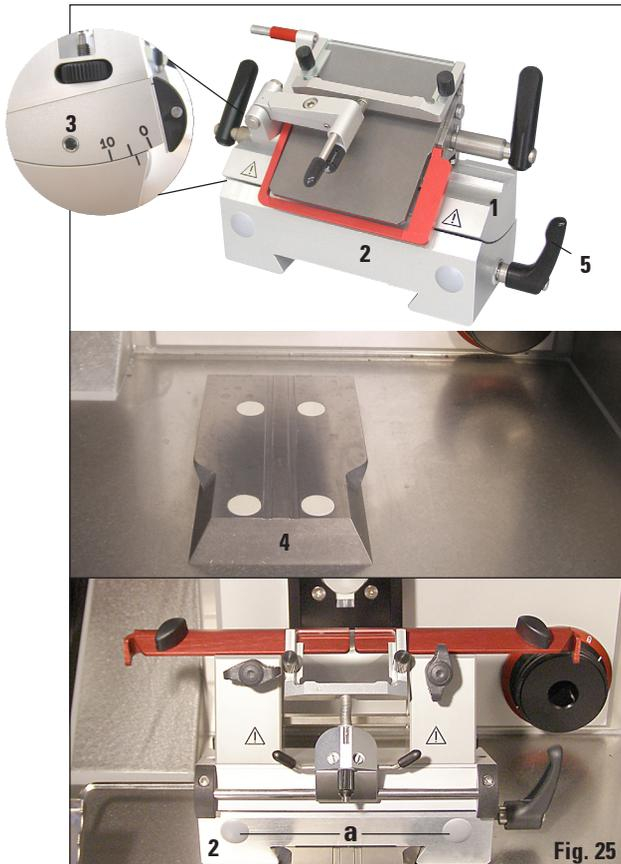

Fig. 25
- Set the knife or blade holder (1, Fig. 25) on the base (2), adjust the clearance angle (on the left of the knife/blade holder) to approx. 2°-5° and secure it in the bore (3) on the base (2) using the No. 4 Allen key.
- Push the knife holder base (2) on the dovetail guide (4) from the front and tighten it using the clamping lever (5). To move the base, open the clamping lever only a little to prevent accidental sliding in the direction of the specimen head.
- If the clamping distance is not sufficient, the clamping lever (3) can be moved. To do so, pull the lever out and move it to the next position.